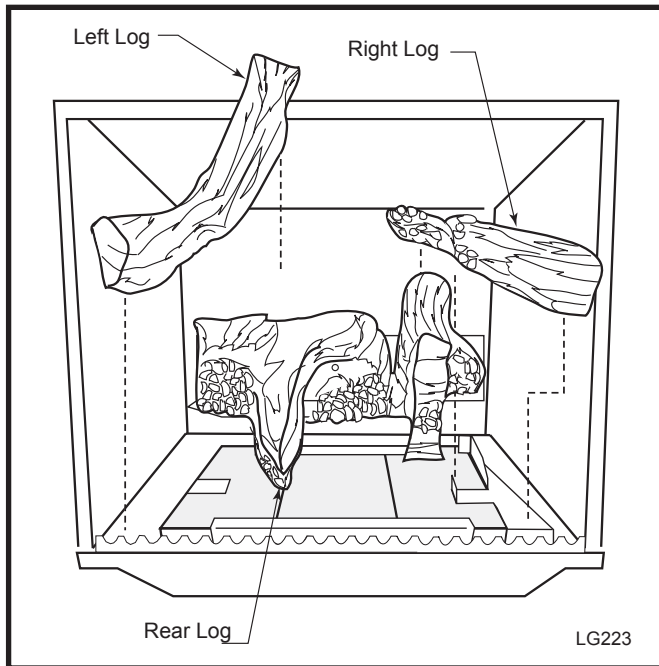

Fig. 17 Install rear, left and right logs.
2. Install the rear log by placing it on the sheet metal shelf at the back of the firebox. (Fig. 17) The log should touch the back wall of the firebox and be centered.
3. Install the right log by placing it on the sheet metal bracket behind the grate with the right end of the log, "the thicker end", touching the grate and the right side the firebox. Swing the left end of the log "painted end", backward until it comes in contact with the branch on the rear log. Set the log down over the bent tab on the right. When the log is in place it rests on the tab mentioned earlier and the tip of it comes in contact with the branch on the rear log. (Fig. 17)